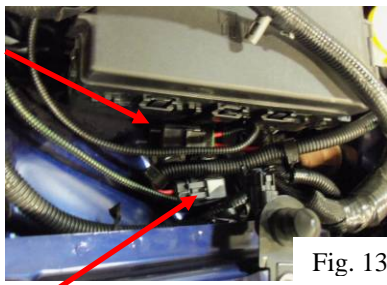

Fig. 13
33) Next, run the fuse holders through the radiator support and towards the passenger side of the fuse box (Fig. 12). The fuse holders should be mounted to the two bolts that attach the fuse box to the fender well (Fig. 13).